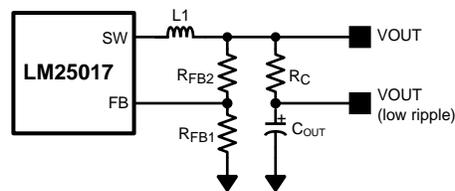

Figure 10. Low Ripple Output Configuration
This regulator regulates the output voltage based on ripple voltage at the feedback input, requiring a minimum amount of ESR for the output capacitor ( $C_{OUT}$ ). A minimum of 25-mV ripple voltage at the feedback pin (FB) is required for the LM25017 device. In cases where the capacitor ESR is too small, additional series resistance may be required ( $R_C$  in Figure 10).
For applications where lower output voltage ripple is required, the output can be taken directly from a low ESR output capacitor, as shown in Figure 10. However,  $R_C$  slightly degrades the load regulation.